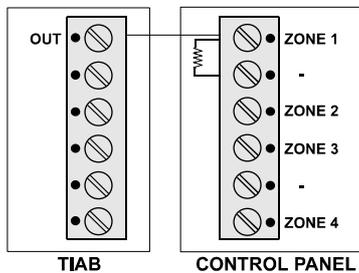

Figure 7 - "Open collector" Output Connection to an Alarm System
- B. Connect the **Panic** output (terminal 7), the **AuxOut** output (terminal 6), the **Door Ajar** output (terminal 4) and the **Forced Entry** output (terminal 5) to the appropriate zone of the alarm system, or to any other indicating device (relay, LED, buzzer, etc.). All these outputs are of the open collector type (see figure 7).